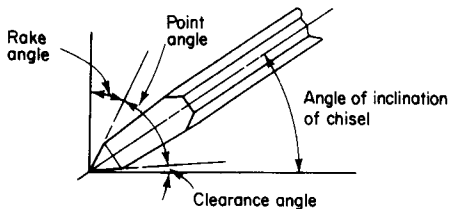

Fig. 4.65 Chisel cutting angles
**Cutting angles for a cold chisel.** When a chisel is inclined for cutting (Fig. 4.65) the rake angle is easily obtained from the point angle and the angle of inclination of the chisel as follows: